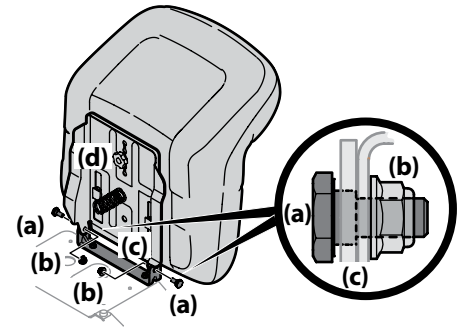

Figure 2-8
- Install the two shoulder bolts (a) and lock nuts (b) removed from the seat mounting bracket (c) in Step 1. See Figure 2-8.
- To adjust the position of the seat, remove the adjustment knob (d) on the bottom of the seat. Slide the seat forward or backward as desired. Retighten the adjustment bolt (d). Refer to Figure 2-8.